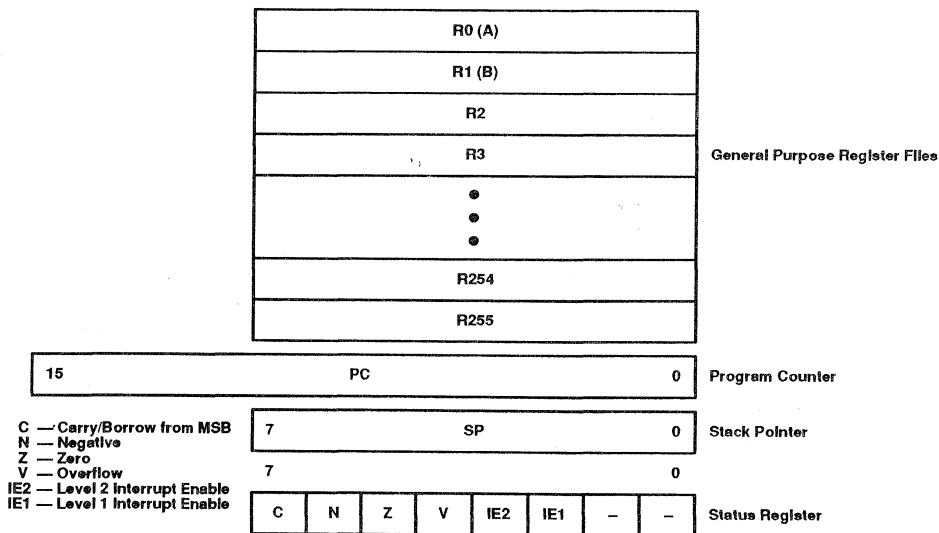

Figure 4. CPU Registers
The TMS370 family CPU registers accessible to the programmer are shown in Figure 4. The register file consists of 256 general purpose registers, R0 through R255, implemented in on-chip RAM, and is used by the CPU for general purpose 8- and 16-bit source and destination operands, index registers, and indirect addressing. The first two registers, R0 and R1, are also called registers A and B and are used by the CPU for general purpose registers or for implied operands. The program counter (PC) contains the address of the next instruction to be executed. The stack pointer (SP) contains the address of the last or top entry on the stack, which is located in the on-chip register file. The status register (ST) contains four bits that reflect the outcome of the instruction just executed, and two bits that control the masking of the interrupt priority chains.